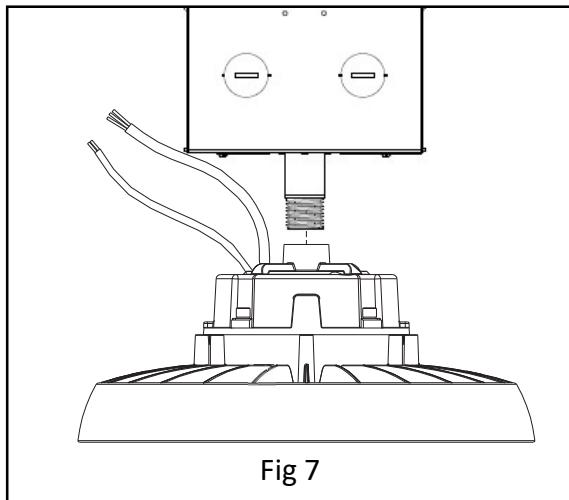

Fig 7
5. Attach the fixture to the NPT on the bottom of the junction box. *See Fig 7.*